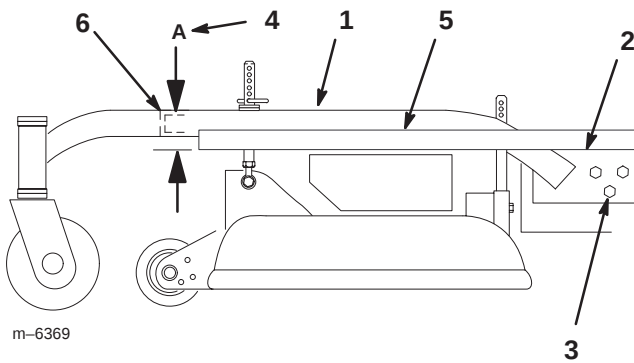

Figure 51
3. Place a long straight edge on top of the engine deck as shown in figure 51.
4. At the carrier frame cross tube, measure location **A** height (Fig. 51). This measurement must be 1–5/16 inch (33 mm), plus or minus a 1/4 inch (6 mm).
6. Loosen the carrier frame mounting bolts on both sides of the machine (Fig. 51).
7. Align the carrier frame and engine deck to match 1–5/16 inch (33 mm), plus or minus a 1/4 inch (6 mm) at location **A** (Fig. 51).